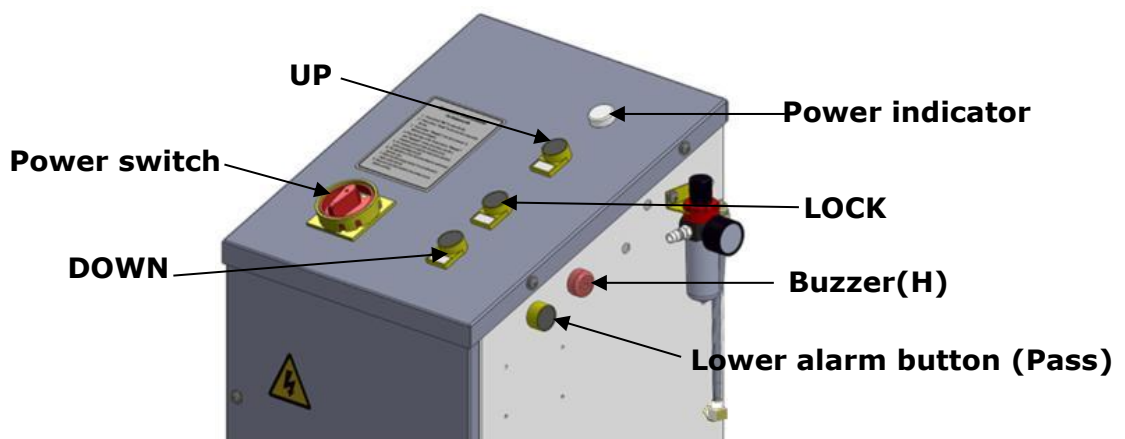

Fig.34
3. Turn the Two-way valve to normal working position (**See Fig.34**), push button **UP** to rise the lift. Check if both platforms rise synchronously, if not, lower the lift to the lowest, and repeat step 2 until the two platforms can rise synchronously.